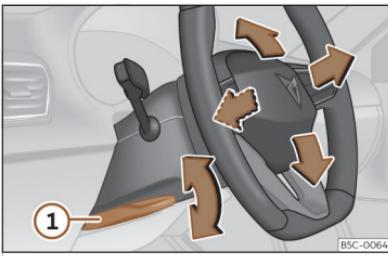

Fig. 84 Lever in the lower left side of the steering column.
- Pull lever »»» **Fig. 84 ①** down, move the steering wheel to the desired position and lift the lever back up until it locks.
- After adjusting the steering column, push lever »»» **Fig. 84 ①** firmly upwards so that the steering wheel does not accidentally change position while driving.